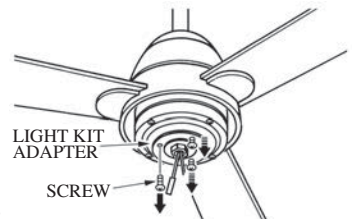

FIG. 12
1. Remove one screw and loosen the other two screws from light kit adapter. (see Fig.12)